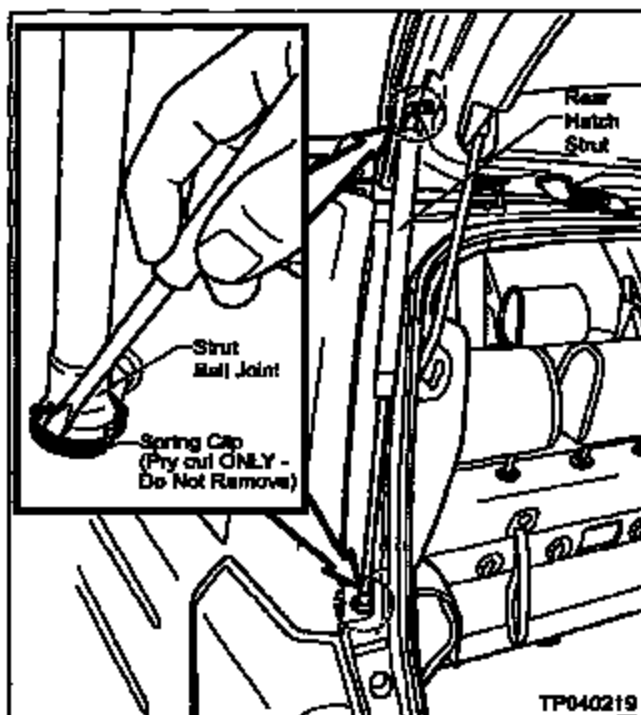

Figure B1
- Proper support is important: the weight of the Rear Hatch door requires two (2) fully charged Gas Filled Struts to hold it open. One (1) strut, even with the motor and arm attached (if applicable), will not hold the rear hatch door open.
- b. Use a small flat-blade screwdriver to carefully pry out (part way) the Spring Clip at both Strut Ball Joints (see Figure B1). Don't remove the Clips completely.